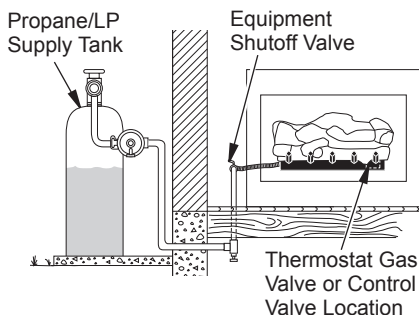

Figure 18 - Checking Gas Joints (Propane/LP Only)
3. Check all joints from gas meter to equipment shutoff valve for natural gas or propane/LP supply to equipment shutoff valve for propane/LP (see Figure 18 or 19). Apply noncorrosive leak detection fluid to all joints. Bubbles forming show a leak.
4. Check all joints from equipment shutoff valve to thermostat gas valve (Thermostat-Controlled Models) or to gas control (Remote-Ready Models) (see Figure 18 or 19). Apply noncorrosive leak detection fluid to all joints. Bubbles forming show a leak.